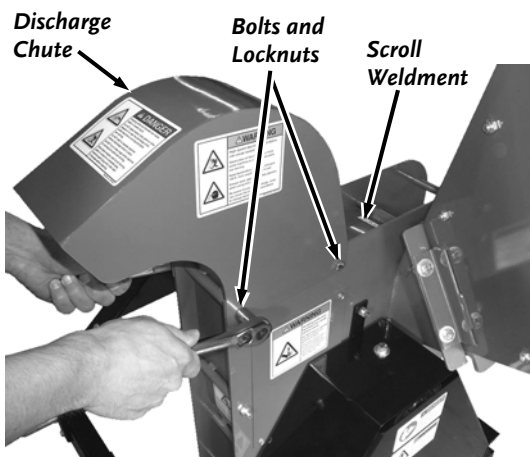

Figure 27
3. Remove the two Bolts and Locknuts that secure the Discharge Chute to the Chipper Basic Assembly with two 1/2" wrenches and then remove the Discharge Chute (**Figure 27**).